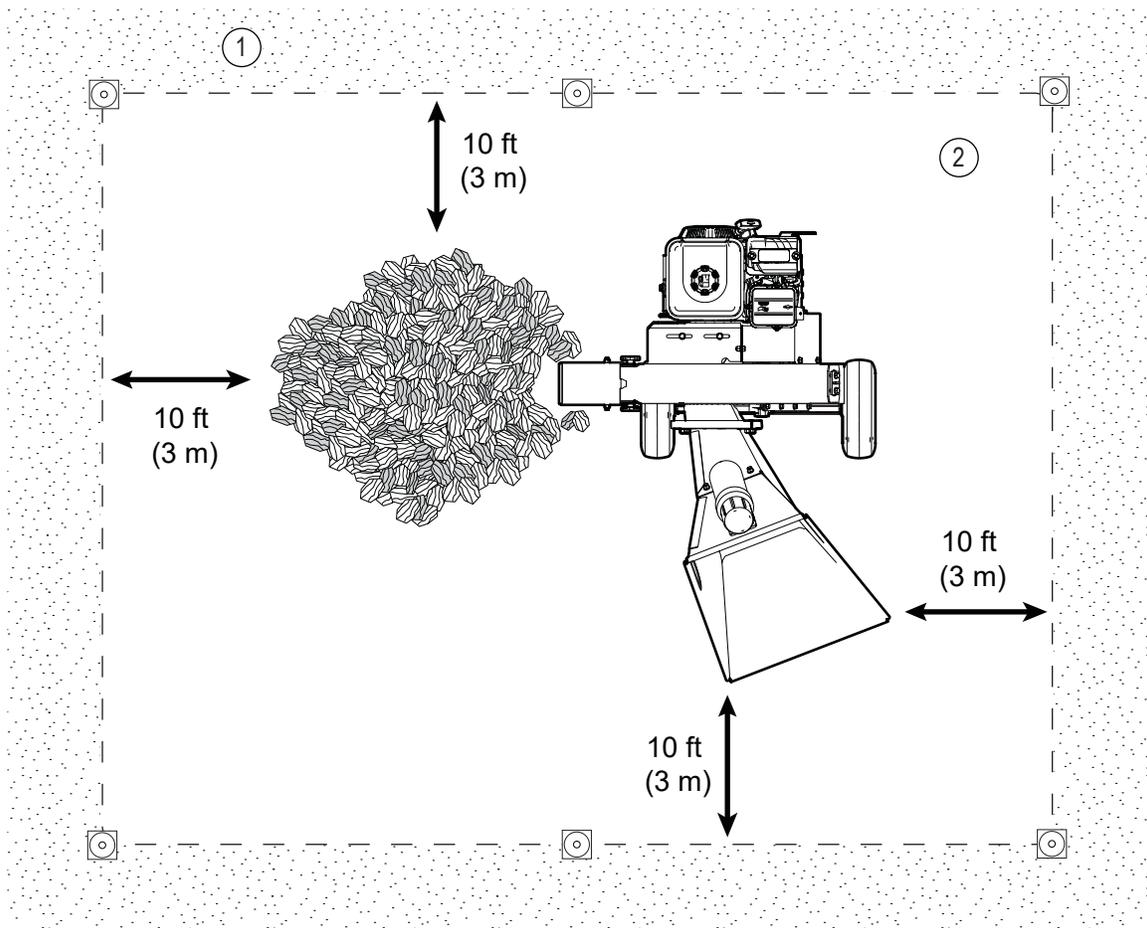

Figure 2—Safe work area
- Use safety cones to identify the work zone perimeter. The work zone perimeter should be a minimum of 10 ft (3 m) away from any hazard in the work zone. The area outside the work zone perimeter is the safe zone. For more information, see *Figure 2 on page 12*.